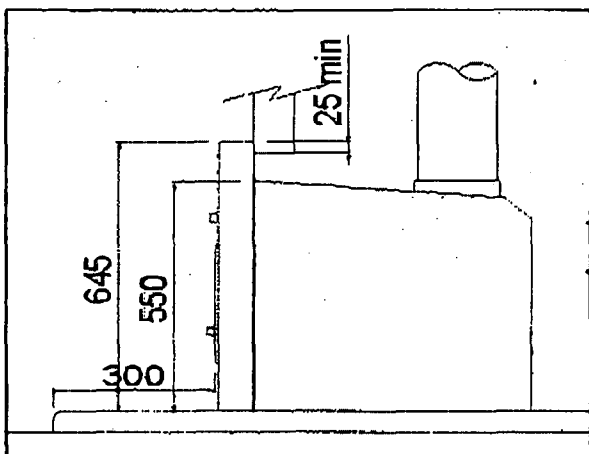
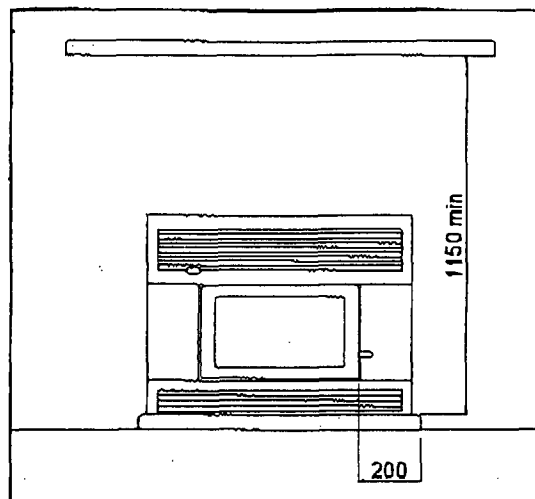

Fig 2
Fig 4
2. Check that there is a suitable floor protector. The floor protector must be insulated and non-combustible and must extend 300mm in front of the door glass and be at least 45mm above the floor of the room. Masonry is suitable for the floor protector. If flush with the room floor, the floor protector must extend at least 395mm. It must extend at least 200mm either side of the door opening. (See Fig 4)
3. Measure the opening of the fireplace to confirm the LOGFIRE will fit. When fitted, the fascia surround should overlap the fireplace opening by a minimum of 25mm on sides and top. (See Fig 2, 3.) If the fascia surround is too small for the opening, a backing plate must be fitted. The underside of the mantel, if fitted, must be no closer to the top of the floor protector than 1150mm. (See Fig 4)
6. Fit the flue system to the LOGFIRE as detailed in the separate Manufacturers Instruction sheet that accompanies the flue kit. See Fig 2